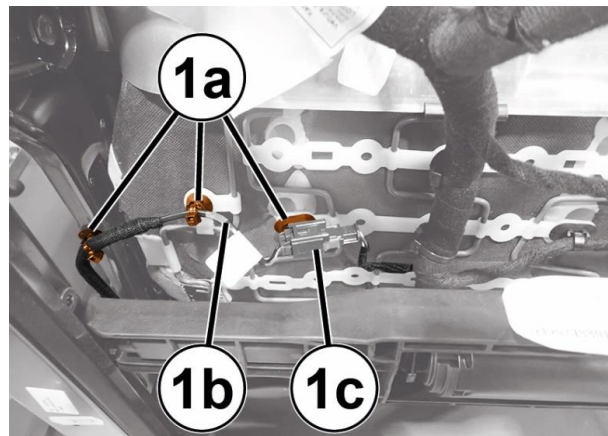

Figure 3 – Electrical Connector
6. Move the seat to a work bench, flip the seat over, release the retainers (1a) of the wiring harness (1b) and the connector (1c) (Figure 3).